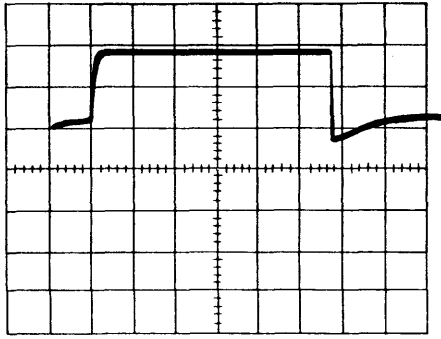

Figure 13. Disk Write Delay (2S4-3)  $300 \pm 45 \mu s$
3. Disk Write Delay: Sync on 2S4 pin 6 while performing a file write operation (Figure 13).